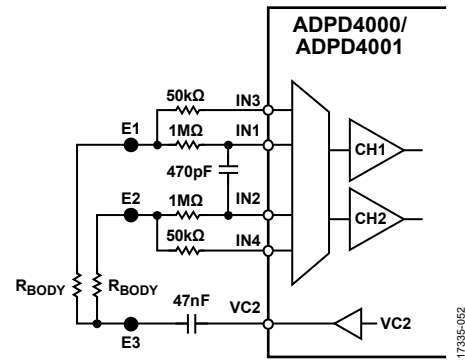
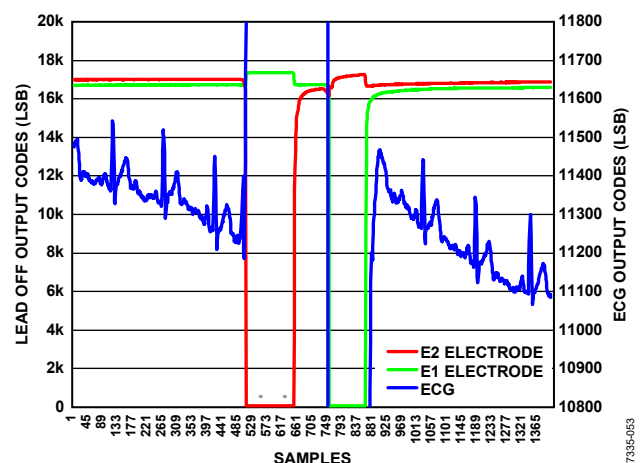

Figure 48. Circuit Used for Lead Off Detection Measurement
Figure 49. Lead Off Detection Measurement
To perform a lead off detection measurement, the ADPD4000/ADPD4001 measure the impedance of the electrode contacts to determine whether one or more of the electrodes are not making contact with the skin. This measurement requires a separate electrode connected to an unused VCx pin that can provide a stimulus to the body. The RC network of the ECG measurement is also bypassed by wiring the electrodes directly to a separate set of inputs through 50 k Ω resistors. The response from the stimulus is measured from this separate set of inputs. Figure 48 shows a circuit that can be used for the lead off detection measurement. R_{BODY} is the resistance of the body.
2. Lead off detection of the ECG electrodes is taken in Time Slot B by making simultaneous single-ended impedance measurements of the E1 and E2 ECG electrodes into Channel 1 and Channel 2, respectively, as shown in Figure 48.
Figure 49 shows a data plot of a lead off detection measurement during an ECG measurement using the circuit of Figure 48. When the ECG electrodes are making contact with the skin during the measurement, an ECG signal is clearly visible. The impedance measurements of the E1 and E2 electrodes show some value indicating that contact is being made with the skin and current is flowing into the ADPD4000/ADPD4001 when the stimulus is applied. When either electrode stops making contact with the skin, a value of 0 is read for that measurement indicating an open circuit, effectively a lead off condition. When contact between both electrodes and the skin is restored, the ECG signal is reacquired in less than 1 sec.